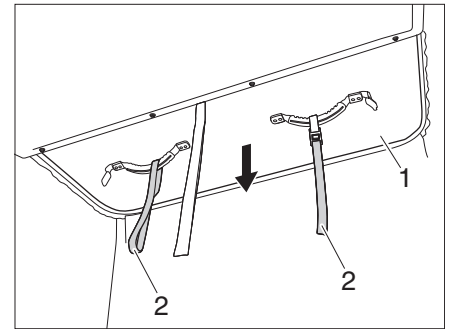

Fig. 25 Pulling the pop-up roof downwards
- Pull the pop-up roof (Fig. 25,1) slowly downwards by the pullers (Fig. 25,2) **looking** towards the rear, and observe whether the fabric bellows falls neatly inwards.